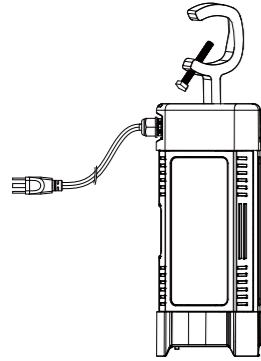

Figure 3
1. Screw the hook into lamp base.(Figure 3).